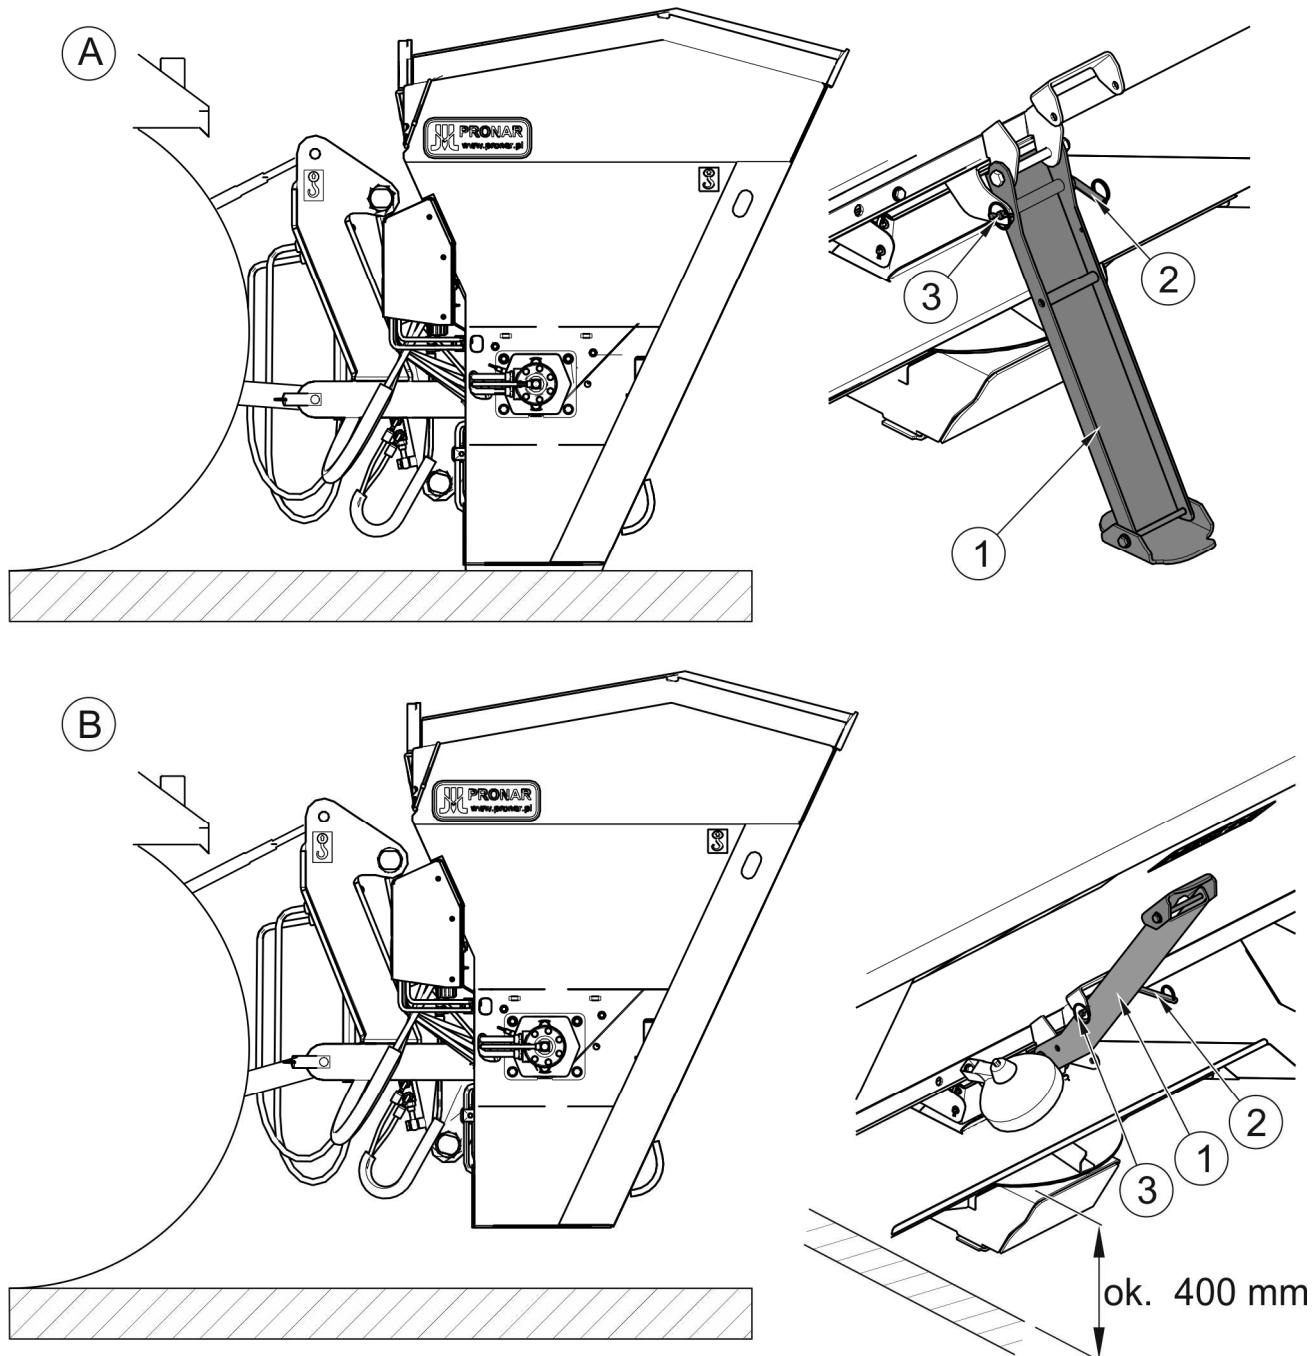

FIG. 4.3 Parking and transportation of the spreader
When parked, the self-loading spreader hitched to the tractor should rest on the ground (Figure 4.3 A). When transporting or operating the spreader you must retract the support leg (1) and secure it with the bolt (2) and cotter pin (3) (Figure 4.3 B). Raise the carrier three-point linkage, so that the disc is positioned about 400 mm from the ground.